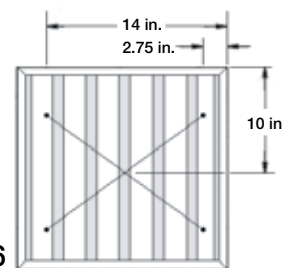

Fig. 26
- For 16 in. (400 mm) wide filters position the grid as shown in Fig. 26.